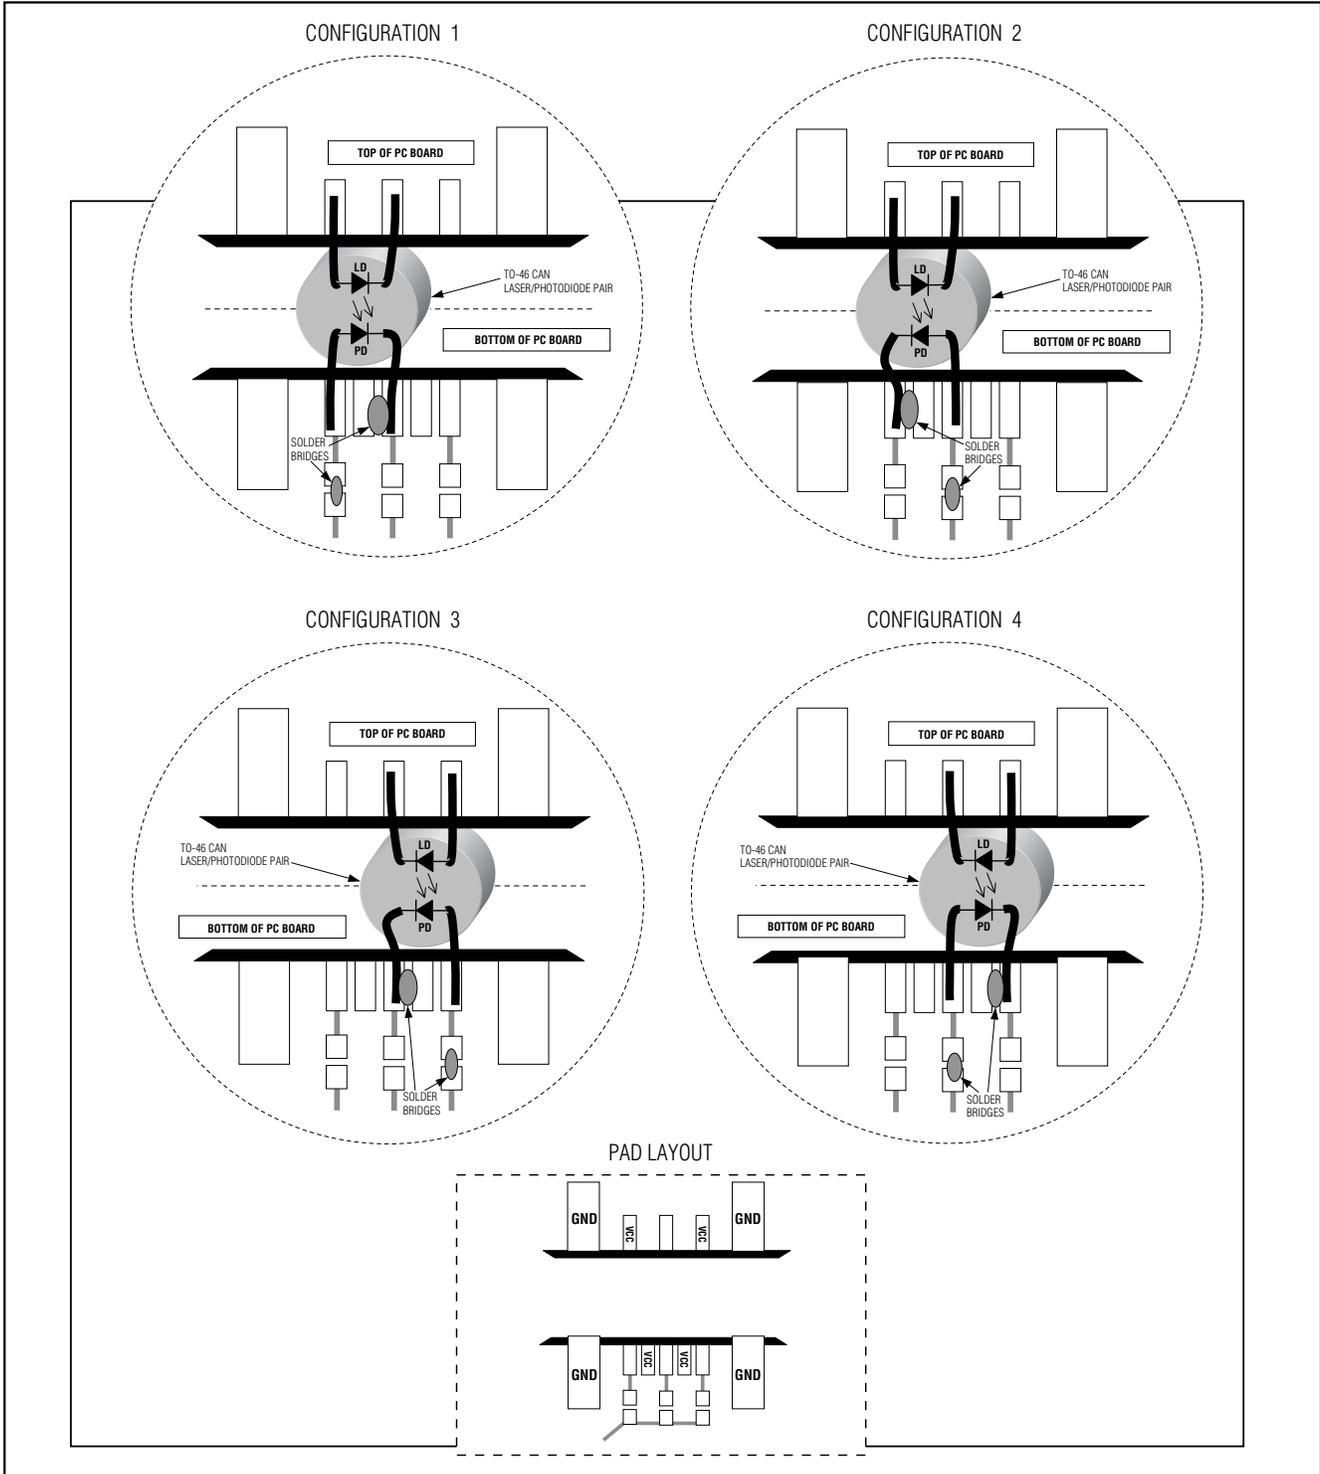

Figure 2. Attachment of a Laser Diode/Monitor Diode to the MAX3865 EV Kit
The MAX3865 EV kit does not include a laser-plus-monitor-diode combination; this must be provided by the user. Available laser/monitor combinations have a variety of pinouts; the kit makes provision for mounting almost all of these (Figure 2).
6) The EV kit is designed to allow connection of a variety of laser/monitor diode pin configurations. Connect a TO-header-style laser with monitor diode (Figure 2) as follows: